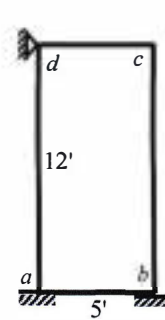

Fig.9
9. Calculate 1st natural frequency of the frame *abcd* shown in **Fig.9** using consistent mass matrices (neglecting axial deformation). $EI = 40 \times 10^3$ $k-ft^2$ $\mu = 0.005$ $k-s^2/ft^2$